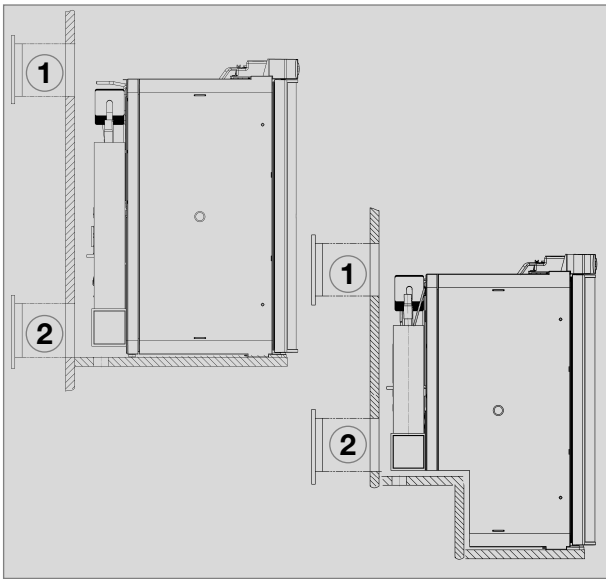

Fig. 16
**The upper ventilation grille should be positioned as high as possible above the condenser (1, , Fig.16). Install the lower ventilation grille at floor level of the recess (Fig. 16,17), allowing unburnt gas (heavier than air) to escape directly into the open air.**